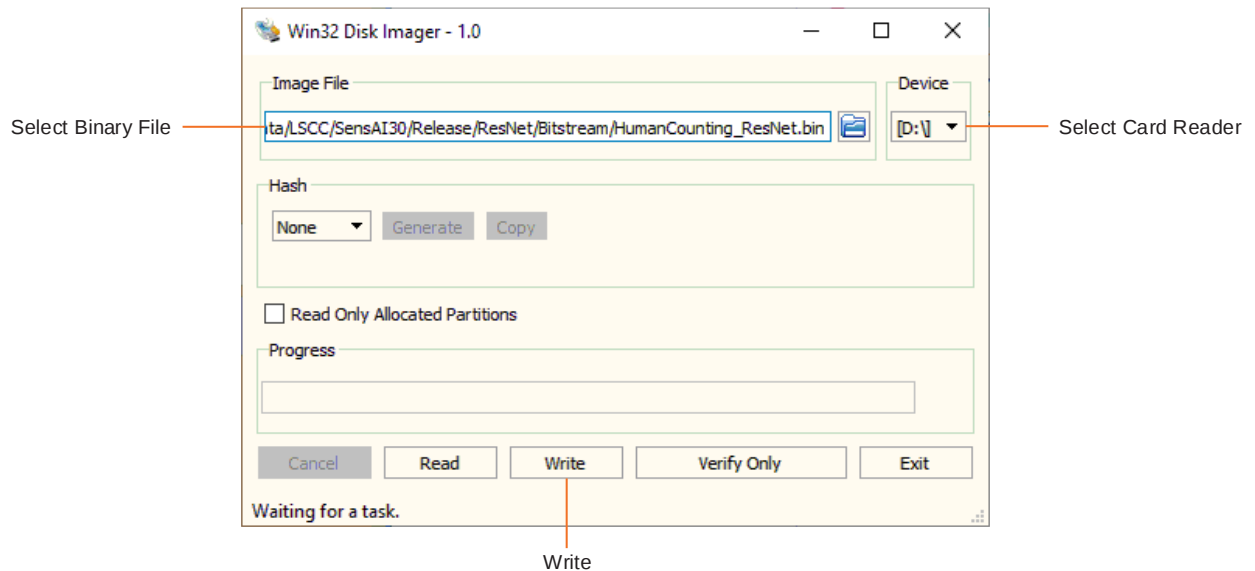

Figure 4.9 Win32 Disk Imager
3. In Win32 Disk Imager, select the **Image File (HumanCounting_ResNet.bin)** and **Card Reader** as shown in Figure 4.9.